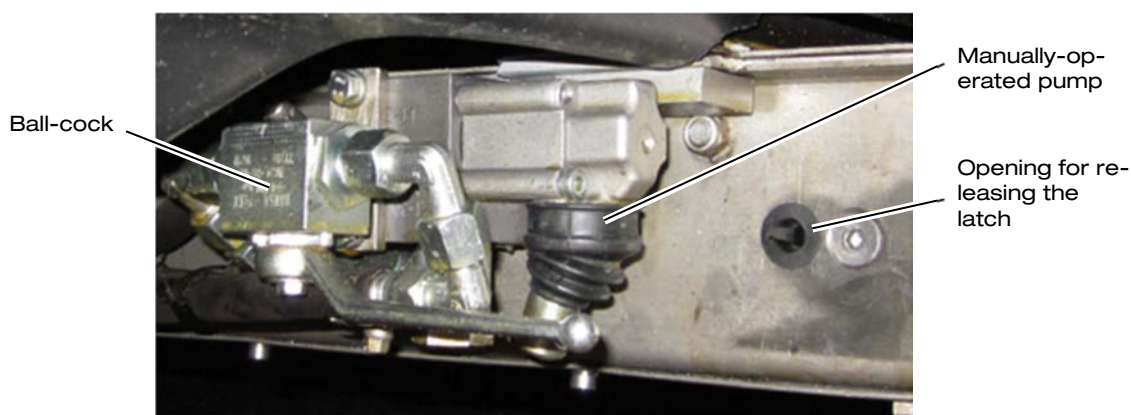
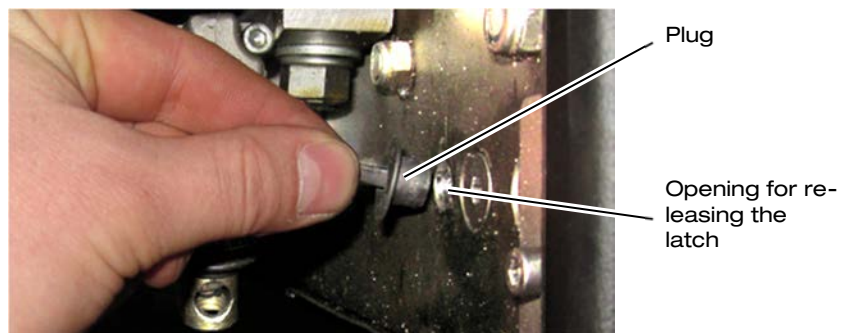

Figure 31: Emergency Operating Controls
Figure 38: Removing the Plug
The emergency operating controls are located on the left-hand side of the cassette (see Figure 31).
- ⇒ Remove the plug that covers the opening through which the latch can be released (see Figure 31, page 48 and Figure 38).